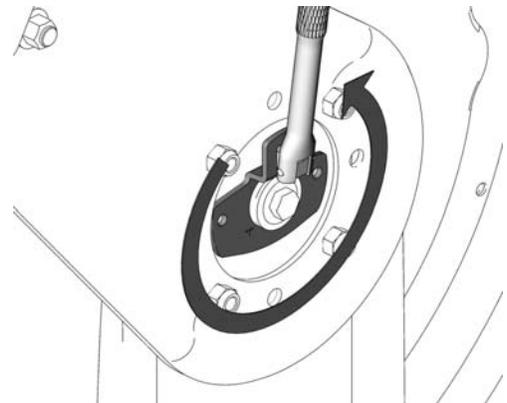

FIG. 14
4. Turn ratchet (C) one full turn counter-clockwise (FIG. 14).